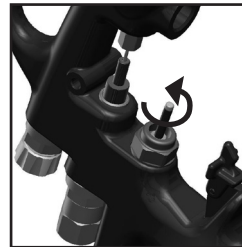

Fig. 27
2. Unscrew air valve using 14 mm wrench. (See fig 27)